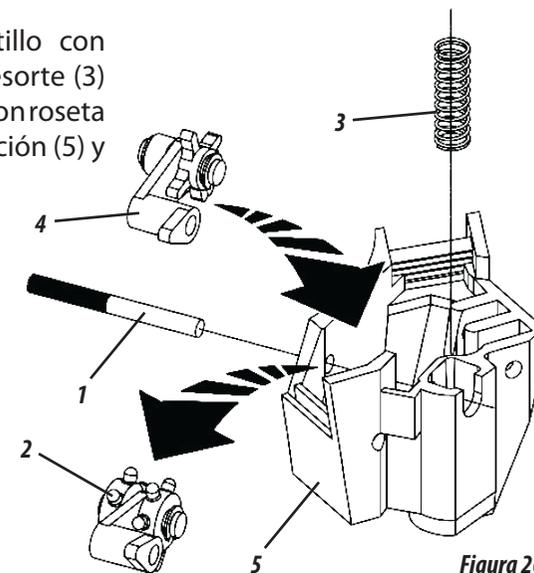

Figura 26
**CAMBIO DE ROSETA DOBLE POR SIMPLE ( FIGURA 26 )**